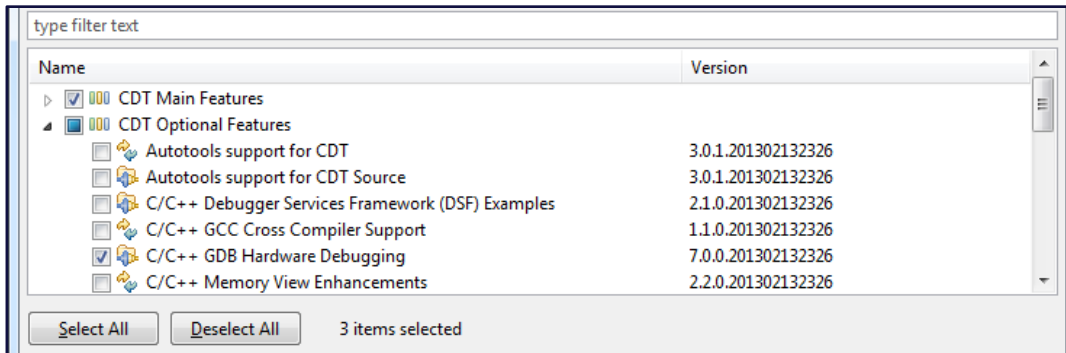

Figure 8: New software selected
- Check CDT Main Features and GDB Hardware Debugging (Figure 8).